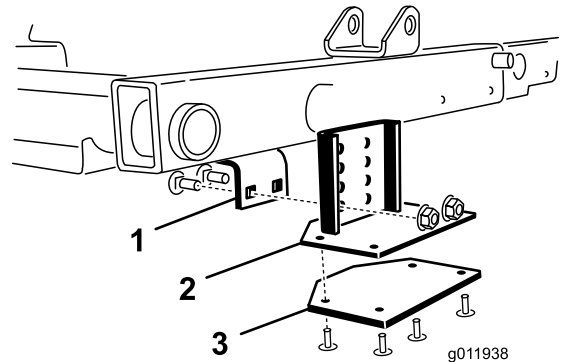

Figure 8
2. Locate the frame bracket above the center cutting unit (Figure 8).
3. While pressing down on the front roller of the center cutting unit, determine which holes on the tipper bracket align with the frame bracket holes to attain the same roller contact when the tipper bracket is installed (Figure 8).
4. Lower the cutting units and mount the tipper bracket to the frame with the (2) carriage bolts and nuts supplied with the kit (Figure 8).